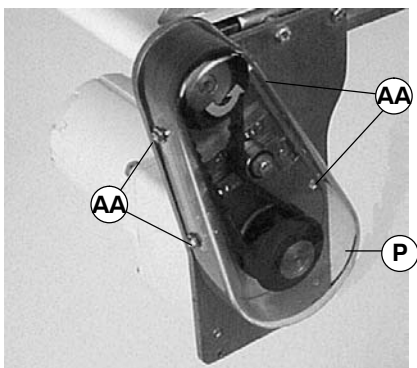

Figure 20
1. Loosen four screws (AA of Figure 20) and remove cover (P).
**NOTE:** Do not over-tighten screws (AA of Figure 20).
6. Install cover (P of Figure 20) and tighten four screws (AA) to 35 in-lb (4 Nm).